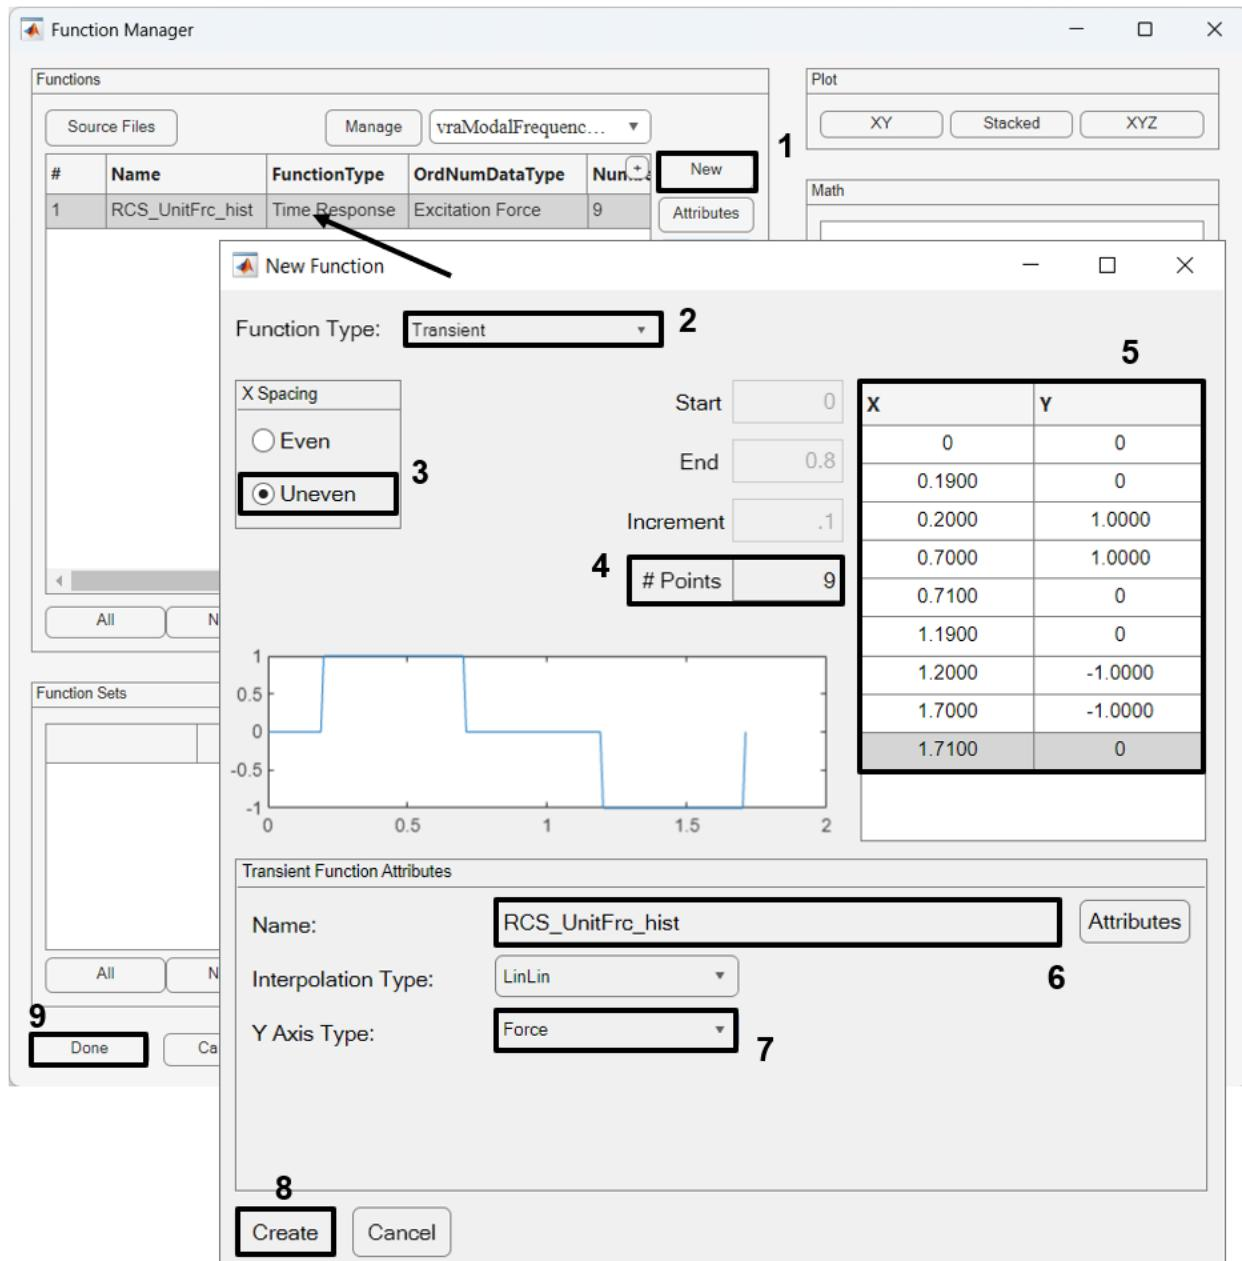
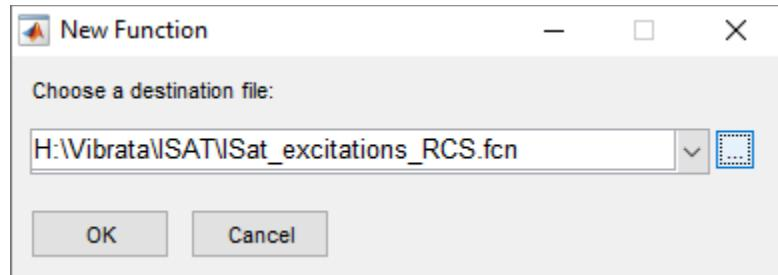

Figure 4-95. Thruster force transient for Isat maneuver.
Figure 4-96. Save the Isat thruster forcing function to a file.
5. In the Function Manager, you will create a time function to excite the Isat transient event. If you have already run the random examples in section 4.3.1, open the "Isat_exitations.fcn" file used there; if that file does not currently exist, you will create it when you have finished defining the function for the current example. As shown in Figure 4-95, create a new transient function, set its Y-axis to *Force*, give it uneven X-spacing, set the number of points to 9, and assign it the X and Y values shown. The pulses have unit amplitude; this will let us size the RCS thrusters just by scaling the excitations. Remember to give the function a recognizable name. Click **Create** to store the function to an *fcn* file (Figure 4-96). Click **Done** on the Function Manager to return this function to the Point Force dialog. Assign it a scale factor of